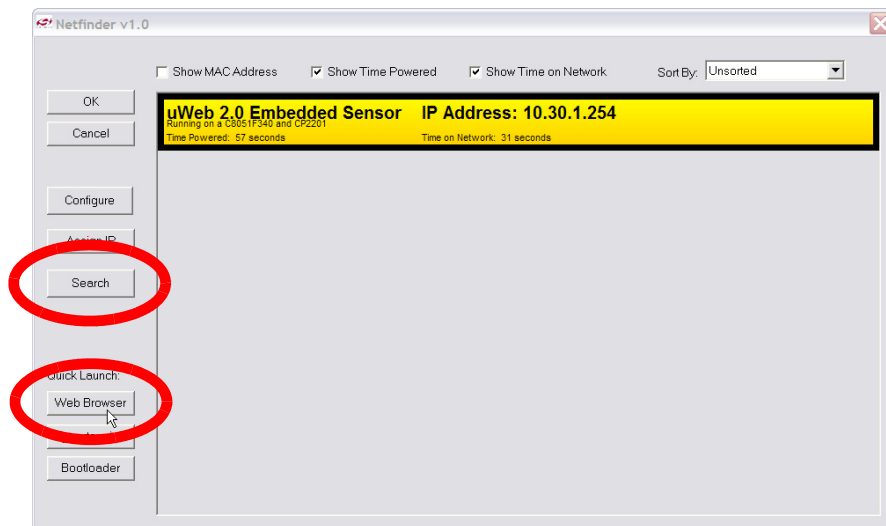

Figure 7. Web Browser Quick Launch Button In Static IP Address Mode
7. Close the 'Assign IP Address' dialog then press **Search** to refresh the Netfinder screen. Select the device by **clicking inside the yellow area** and **pressing the Web Browser quick launch button** as shown in Figure 7.